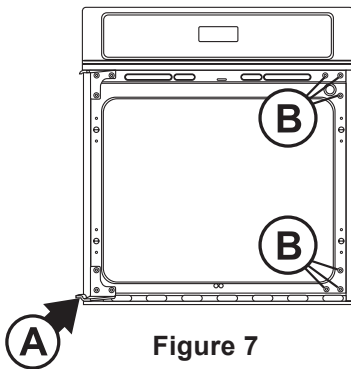

Figure 7
6.1.5. Reinstall the threaded pin at its initial position (see A, Figure 7).
- 6.2.1. Remove the six (6) screws and washers located on the right side of the oven frame (see B, Figure 7). Keep the screws and washers to reinstall them at step 6.2.5.